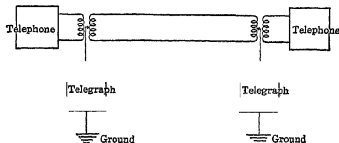

FIG. 167. Telephone circuit combined with a telegraph circuit.
In the system pictured here a galvanized iron wire may be used for one side of the line, the "return" side of the circuit being through the ground. A large part of the telegraph traffic is now carried over lines which carry telephone messages as well. (See Fig. 167.)
90. Combination Telephone and Telegraph Systems. A simplified circuit showing how a telegraph message can be sent over a telephone line is shown in Fig. 167. When a telegraph message is sent it must not disturb the telephone circuits. This requirement is effected by using both telephone wires for one side of the telegraph circuit and the